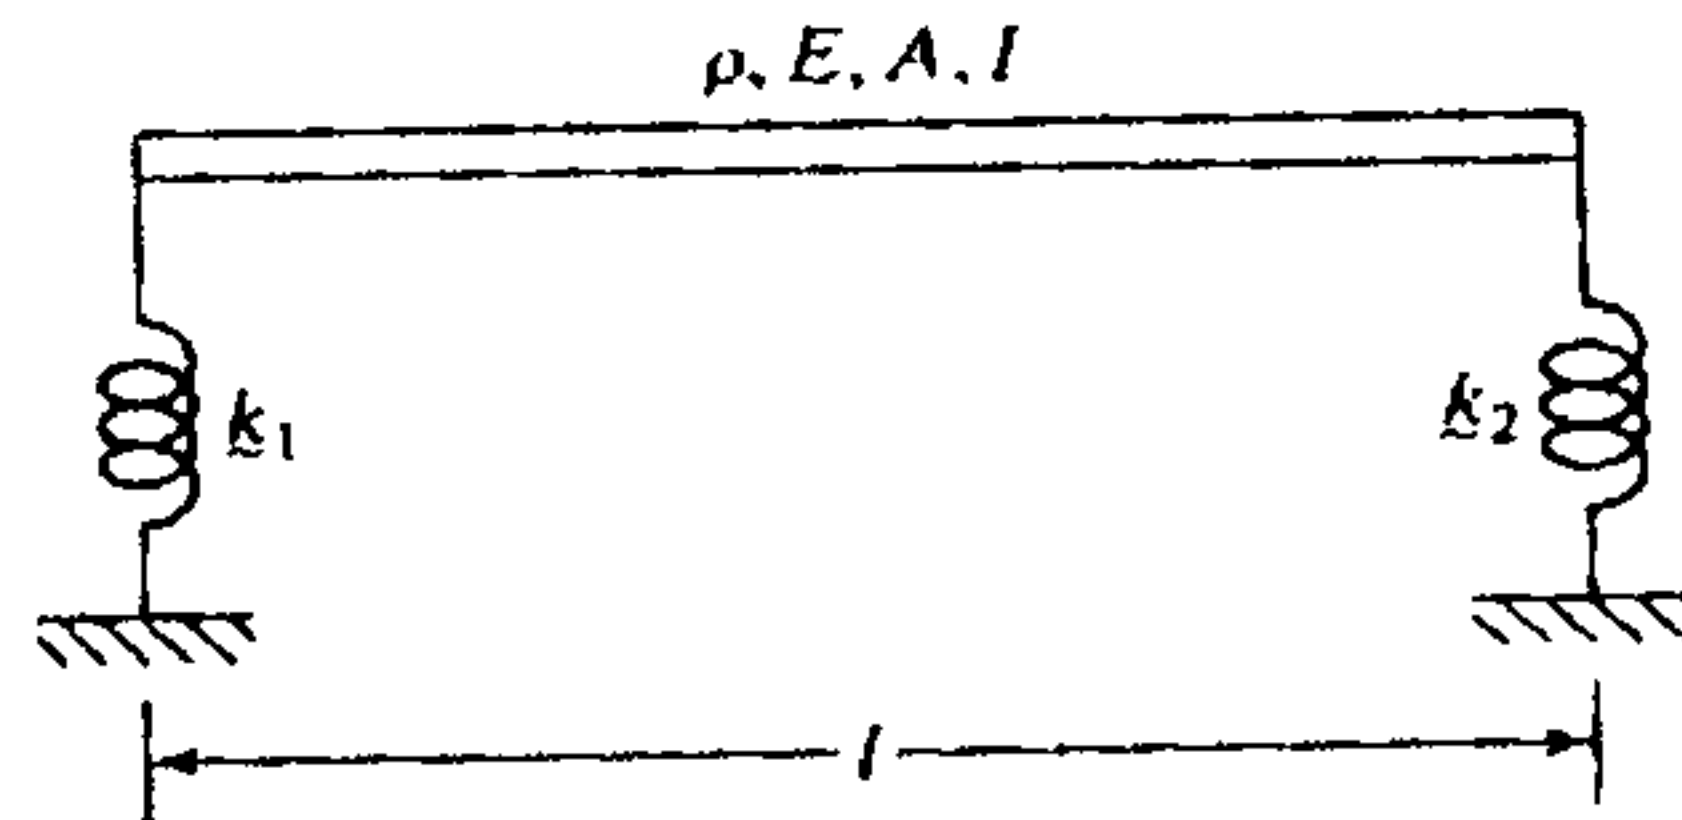

Fig 5
- 5) Derive the frequency equation for the transverse vibration of a uniform beam resting on springs at both ends, as shown in the figure 5. The springs can deflect vertically only and the beam is horizontal in the equilibrium position. 14M